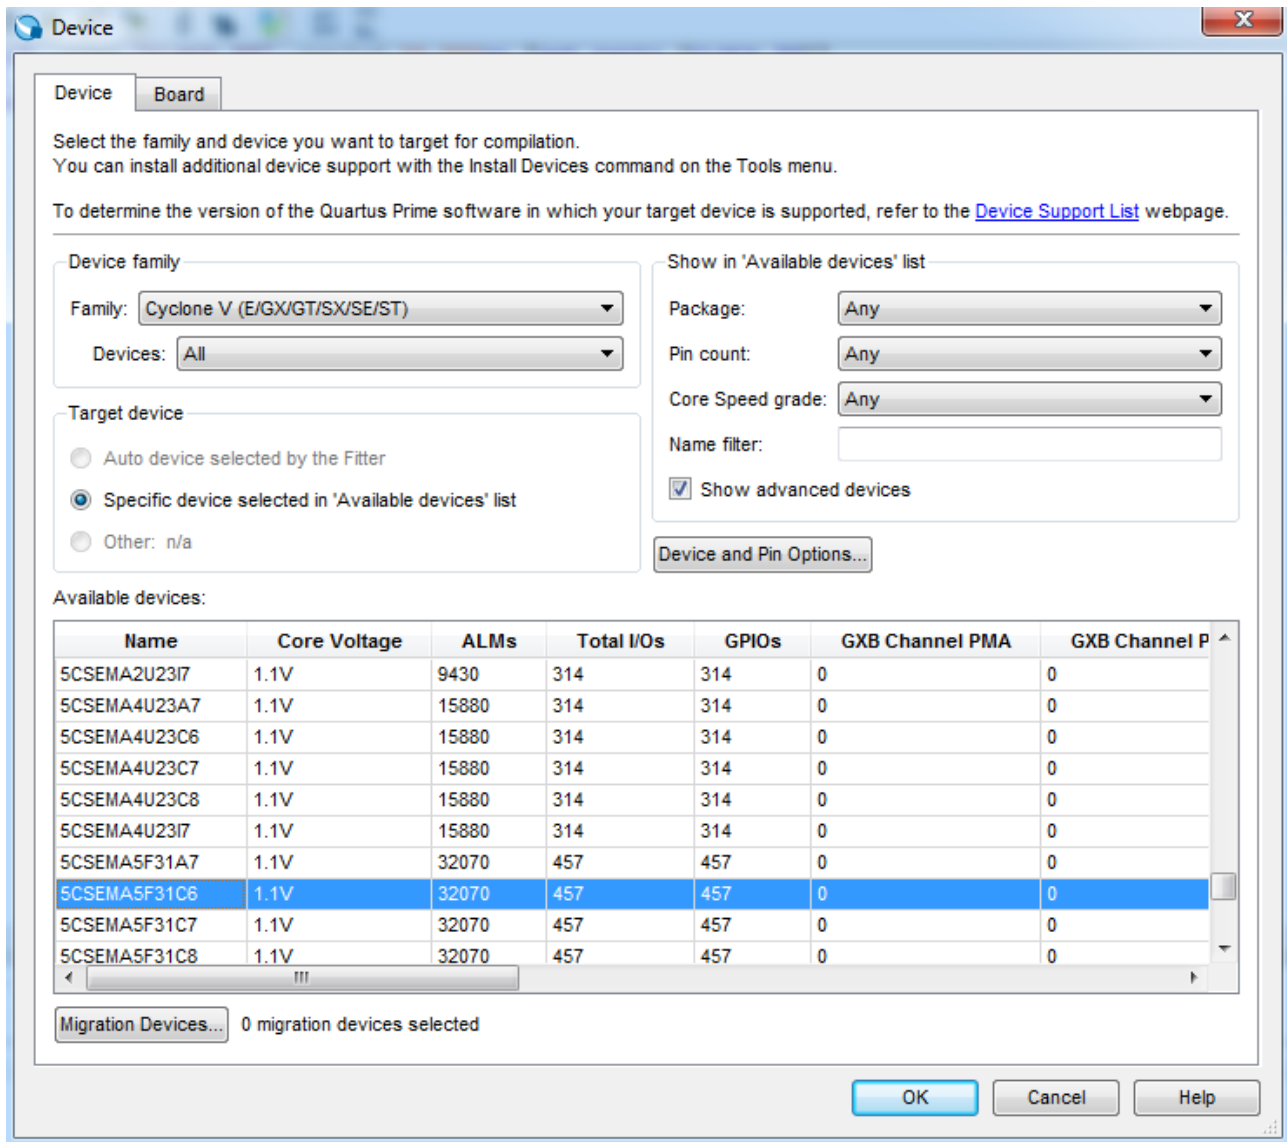

Figure 4-9 Device and Options
3. If other LEDs emit faintness light, Choose Assignments > Device. Click Device and Pin Options. See Figure 4-9.